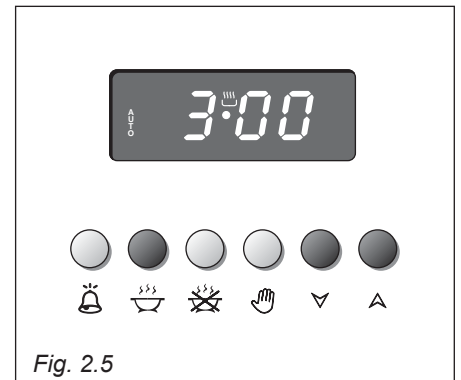

Fig. 2.5
1. Set the length of the cooking time required by pushing the  button and the  button to advance, or  to go back if you have passed the desired time (fig. 2.5). The **AUTO** and the  symbol will be on.